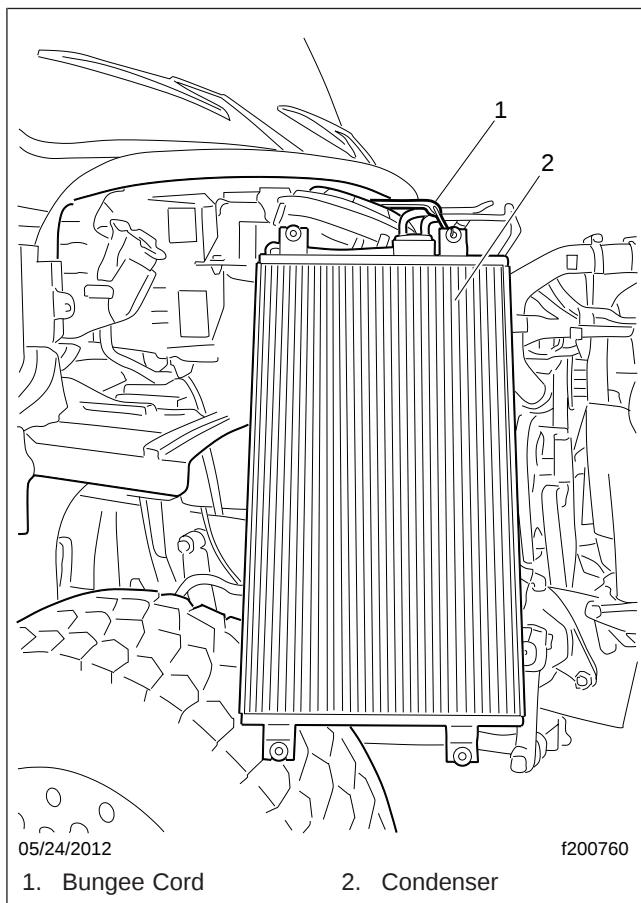

Fig. 5, Securing the A/C Condenser
- 13.4 Carefully move the condenser around and set it on right front tire. Secure it as needed. See Fig. 5.